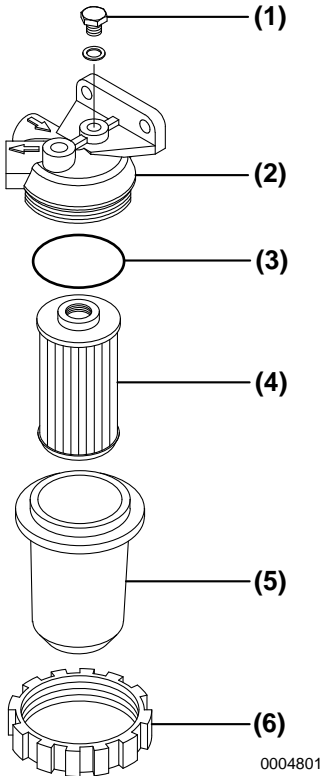

Figure 4
3. Loosen the air-bleed screw (**Figure 4, (1)**) 2 to 3 turns.